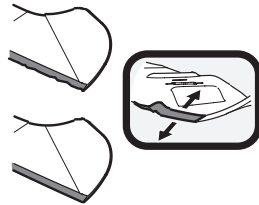

Fig. 55
- To properly sharpen the cutting blades, remove equal amounts of metal from both ends of the blades along the cutting edges, parallel to the trailing edge, at a 25° to 30° angle. Always grind each cutting blade edge equally to maintain proper blade balance (Fig. 55).